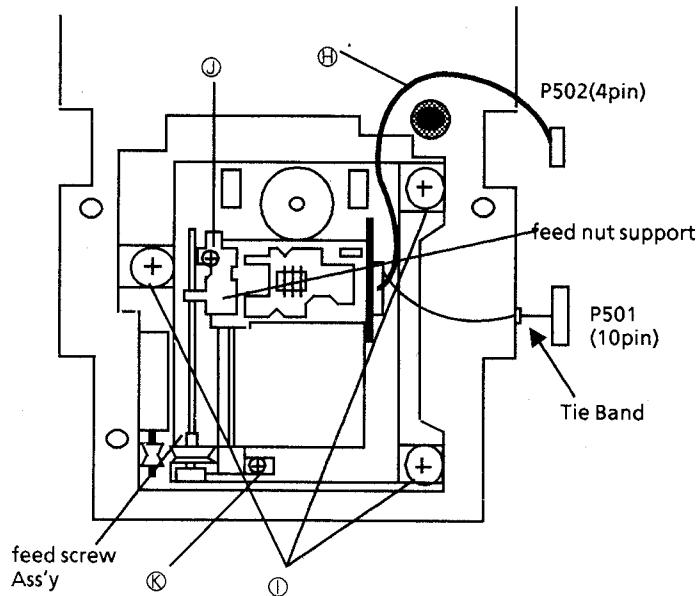

Fig.2
Wire **H** should be set as Fig.2.
4. Removing the turntable base (Fig.2)
5. Exchanging the pickup (Fig.2)